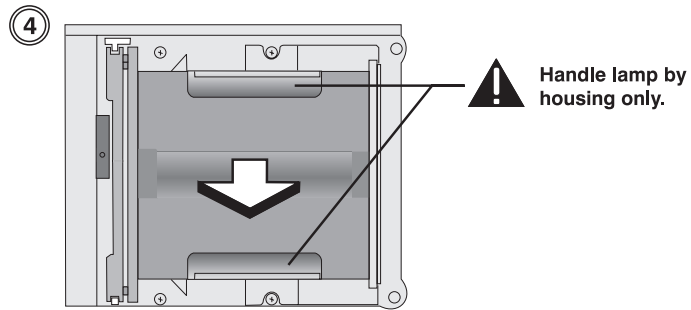

Figure 4.4.
4. Grasp the lamp by its housing only and pull it straight out (lamp slides along guides) until it's free. (Figure 4.4.) Discard the lamp using safe